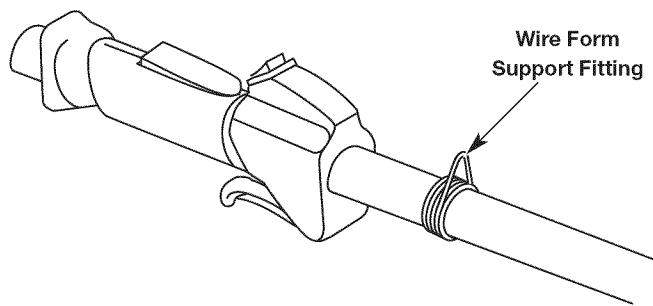
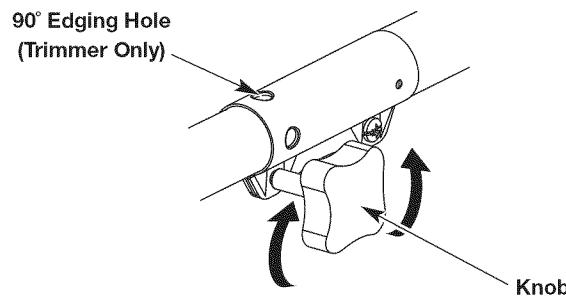

Fig. 3
Fig. 8
Check to see if the trimmer has a wire form support fitting that the shoulder strap can clip to. If the unit has the fitting that is shown in Figure 3, the provided harness loop does not need to be installed. If so, proceed to the next section Install the Shoulder Harness.
1. Turn the knob counterclockwise to loosen (Fig. 8).
3. Turn the knob clockwise to tighten (Fig. 8).
**CAUTION:** Before operating this unit, be sure that the release button is fully snapped into the primary hole (Fig. 3), and that the knob (Fig. 8) is securely tightened.
For decorative edging with the line head trimmer attachment, lock the release button of the attachment into the 90° hole (Fig. 8).